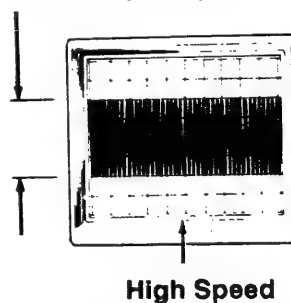

Figure 2-5.3E
12. Run test film at high speed and watch the signal envelope on the scope for dropouts. See Figure 2-5.3E.